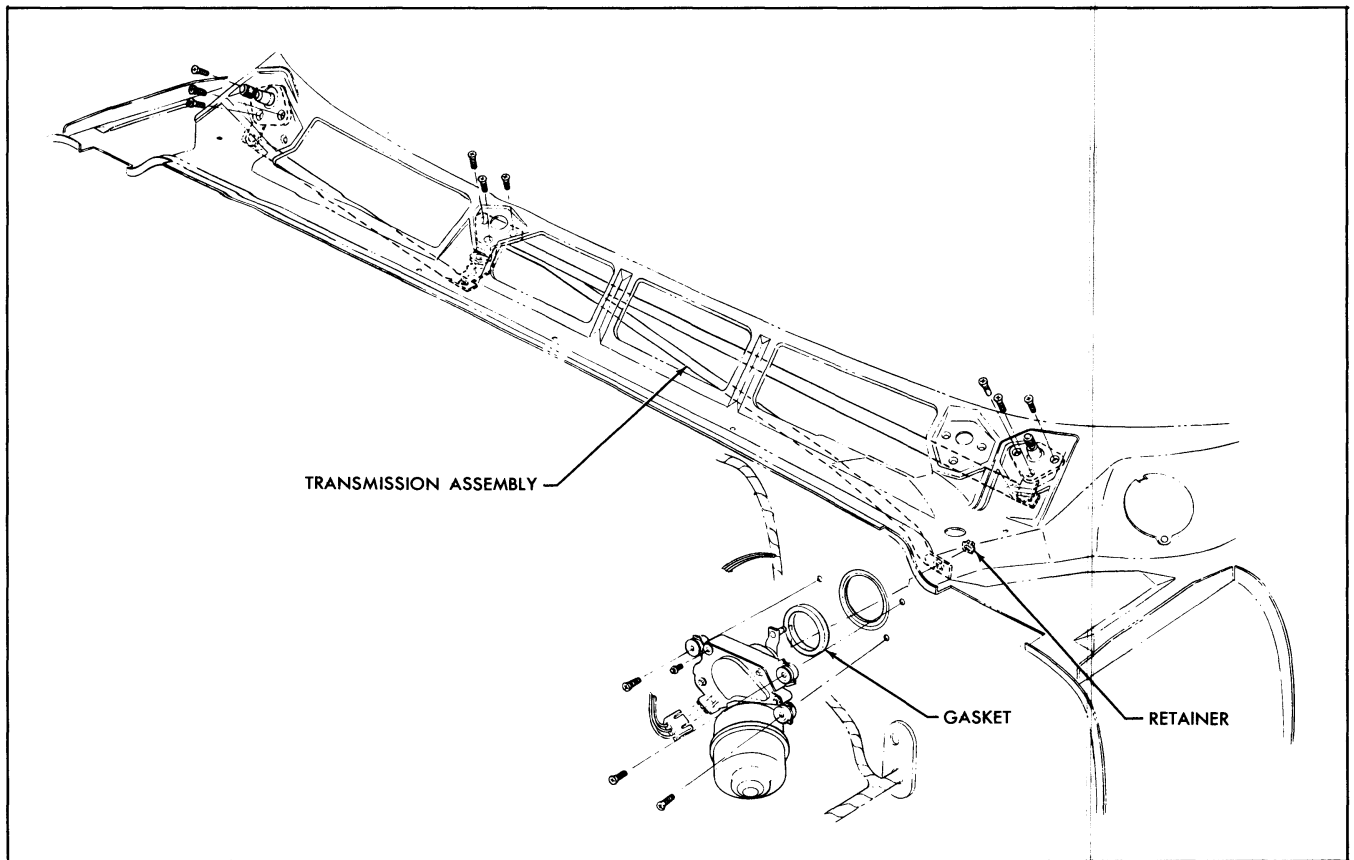

Fig. 11-100 Wiper Installation
WIPER TRANSMISSIONS AND LINKAGE—REPLACE (FIG. 11-100)
1. Make sure gasket is on motor (Fig. 11-100).